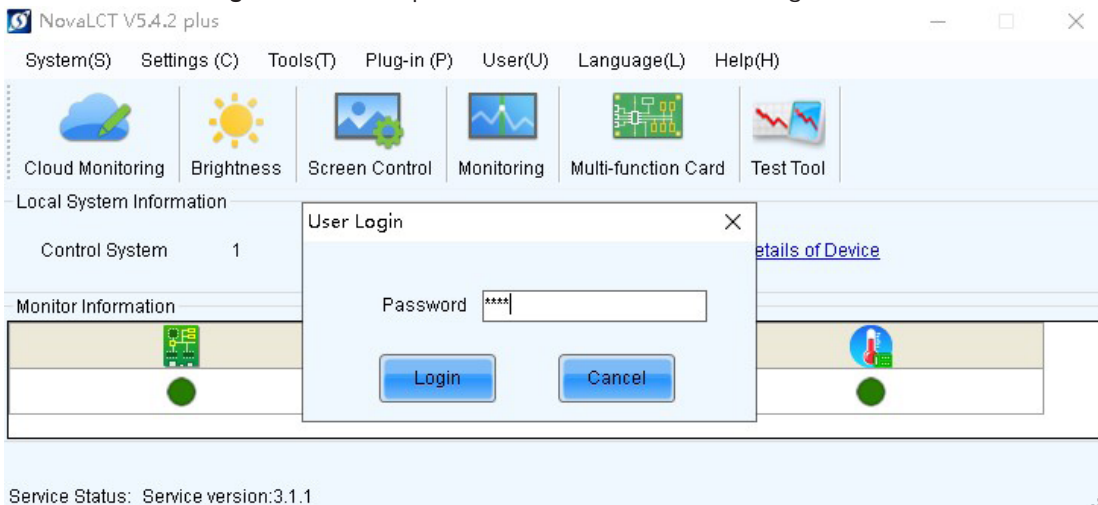

Figure 1-2
2. Enter the password and click **Login**. The default password is **admin** or **666**. See Figure 1-2.